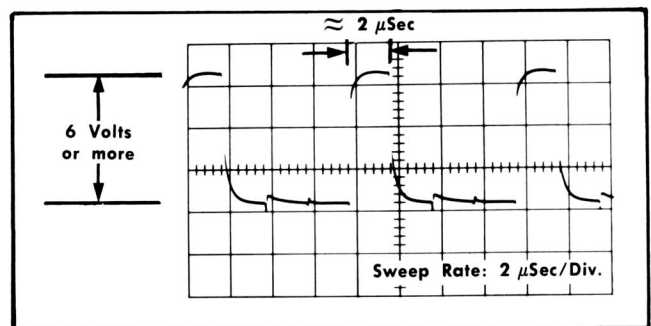

Fig. 6-11. Type 3A74 Ring Counter sync pulse as displayed on the test oscilloscope crt. Vertical deflection factor: 2 volts/div.
- d. Check Ring Counter sync pulse. The waveform should consist of positive-going pulses which have a duration of about 2  $\mu$ sec and an amplitude of about 6 volts or more (see Fig. 6-11).